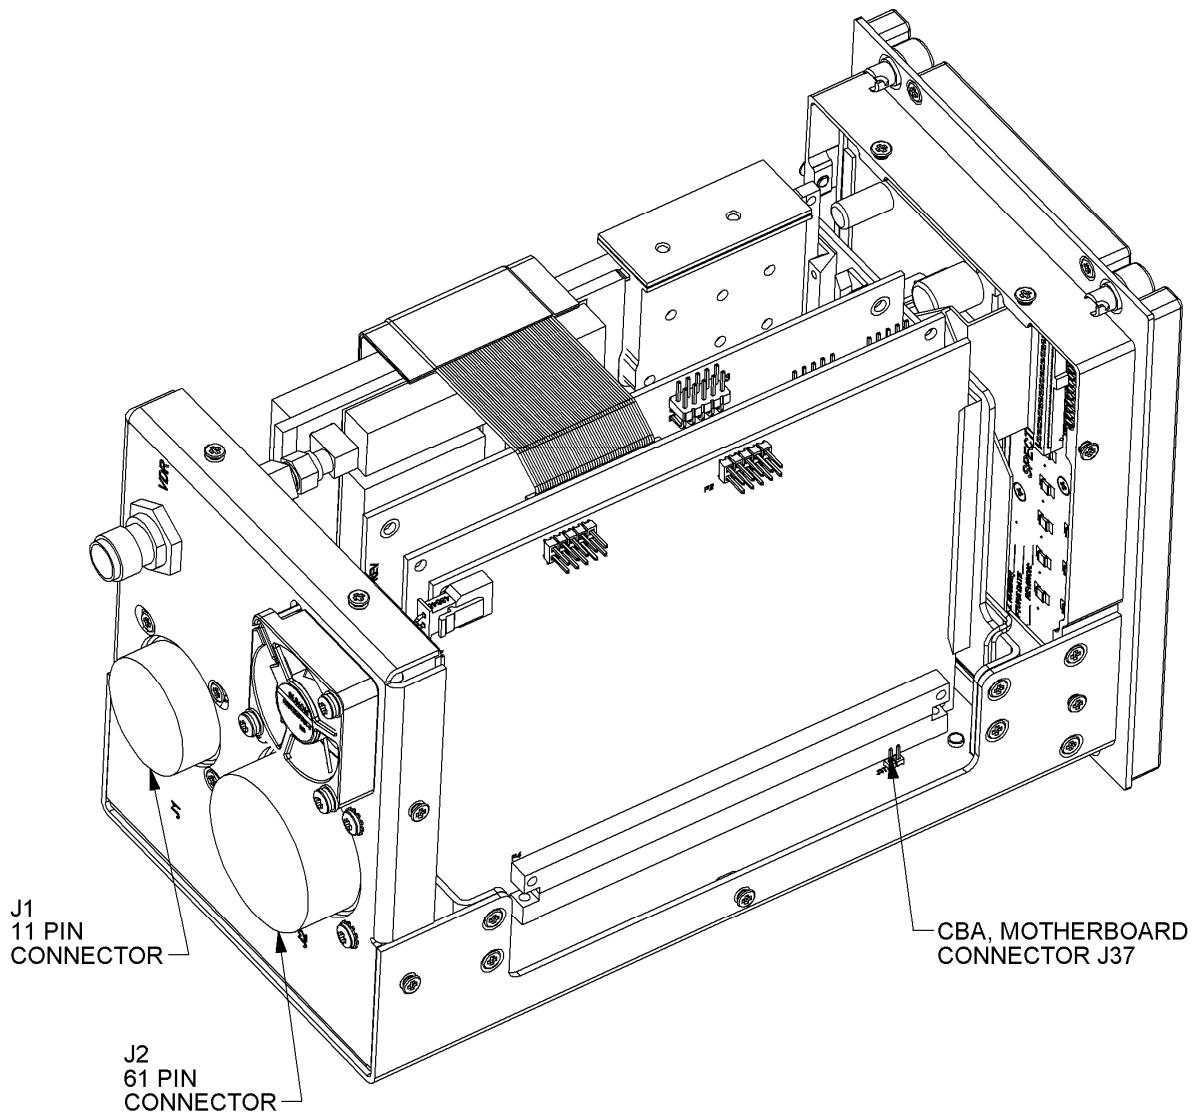

Figure 2. Unit and Shorting Connectors
- D. Disable the watchdog by inserting the jumper handle onto J37 on the motherboard. See **Figure 2. Unit and Shorting Connectors.**
- U. Remove the watchdog jumper handle and confirm that the two pins of J37 are visible and not touching each other. See **Figure 2. Unit and Shorting Connectors**.